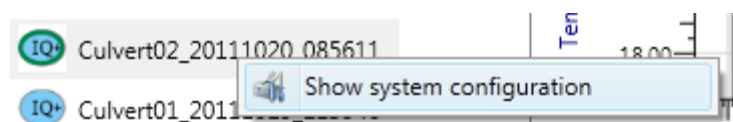

Figure 63. Left click on file name to see IQ settings
- Left click on the file name to view the settings used to collect the data (Figure 63)